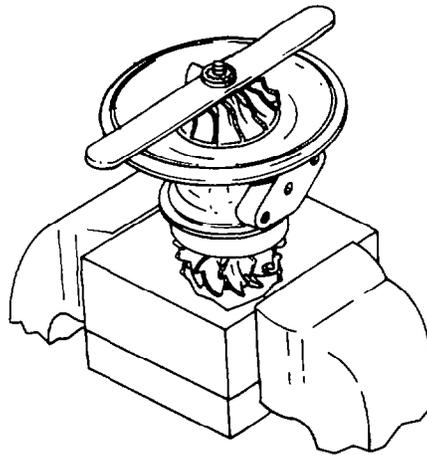

Fig. 137 — Turbine Wheel Holding Fixture
- b. Remove the locknut from the V-band coupling (item 2); remove the V-band from the turbocharger, then remove the compressor housing (item 1) from the back-plate (item 7). If necessary loosen the compressor housing by tapping it with a nylon mallet. Repeat the procedure to remove the turbine housing (item 22) from the centre housing (item 17).
- c. Support the centre housing (item 17) and rotating assembly in wheel holding fixture J-29677-1 (see fig. 137).